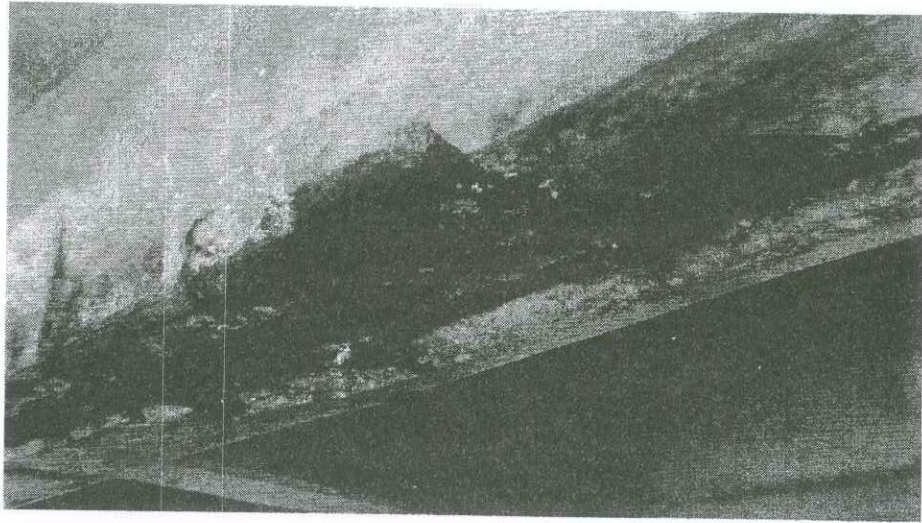

Fig. Q4 Corroded reinforced concrete beam of a highway bridge
- d) Figure Q4 shows a view of a deteriorated reinforced concrete beam of a highway bridge due to corrosion.